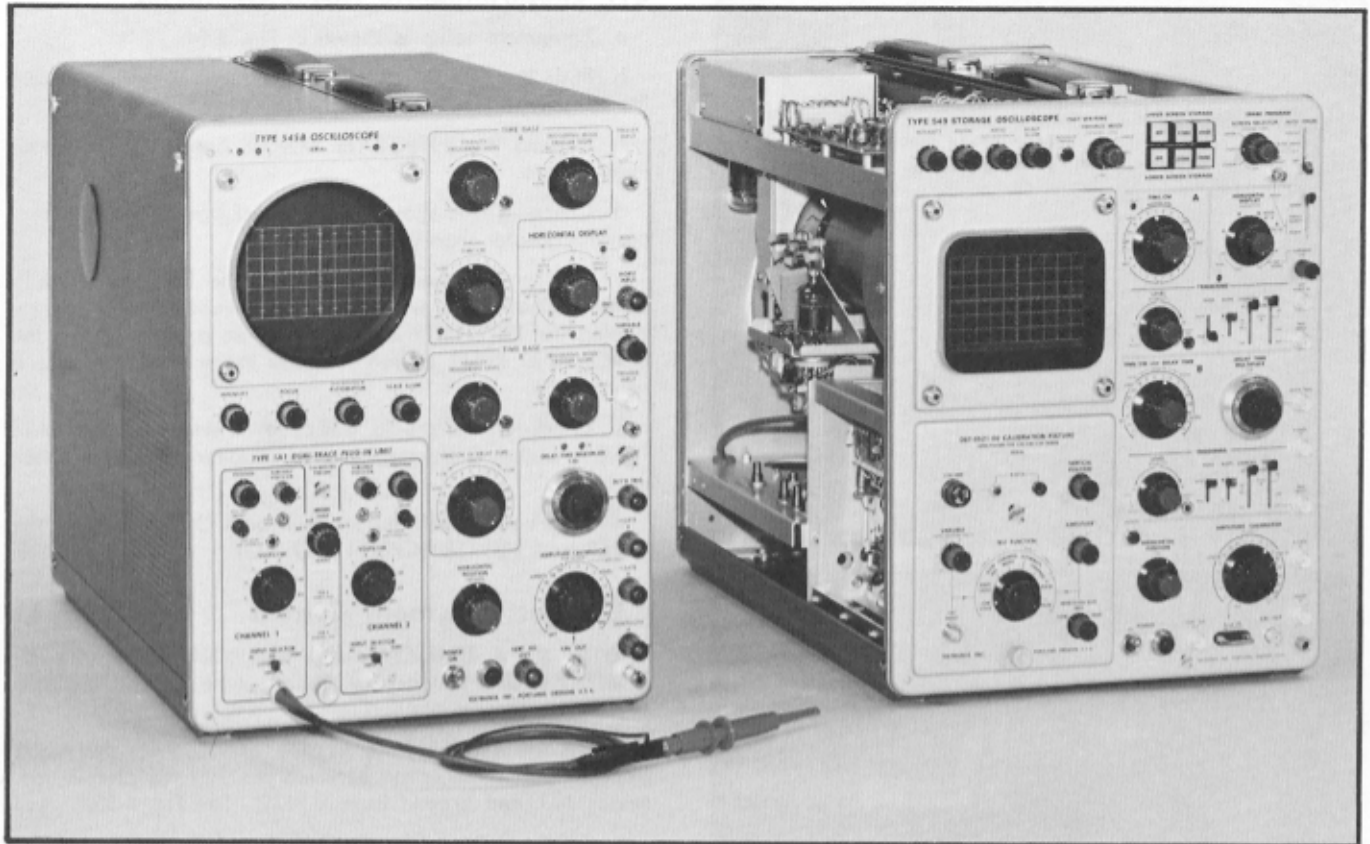

Fig. 6-54. Equipment setup for steps 61 and 62.
- a. Equipment setup is shown in Fig. 6-54.